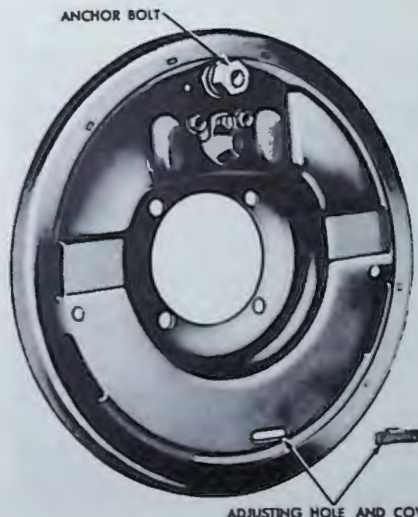

Figure 2—Brake Plate (Lincoln Hydraulic)
(2) **LINCOLN HYDRAULIC BRAKES.** Pry off the adjustment hole cover (fig. 2), and insert a screw driver through the adjustment hole until it contacts the notched wheel. Turn the notched wheel downward (move screw driver upward) until the drum can just be turned by hand (click can be heard each time the notched wheel is turned one notch), then back off the notched wheel 14 notches. Turn the wheel to make sure that there is no drag. Install adjustment hole cover. Follow the same procedure at the other wheels. Check brake pedal (par. c below).